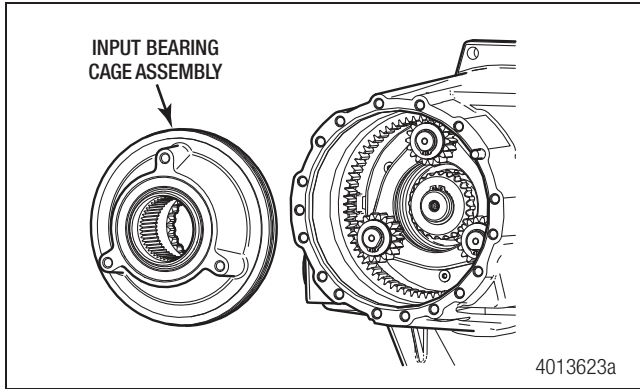

Figure 7.3
1. Lubricate the seal bore in the front case half opening. Place the bearing cage into the front case half opening and line up the sun gear with the planetary gears. Install the bearing cage until completely seated. You will know the cage is installed to the correct depth when the snap ring groove in the housing is visible. Figure 7.3.